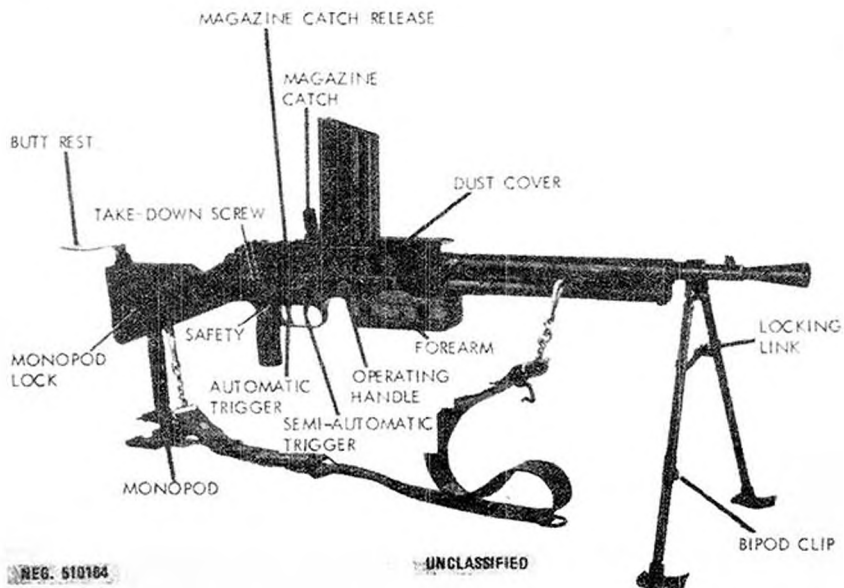
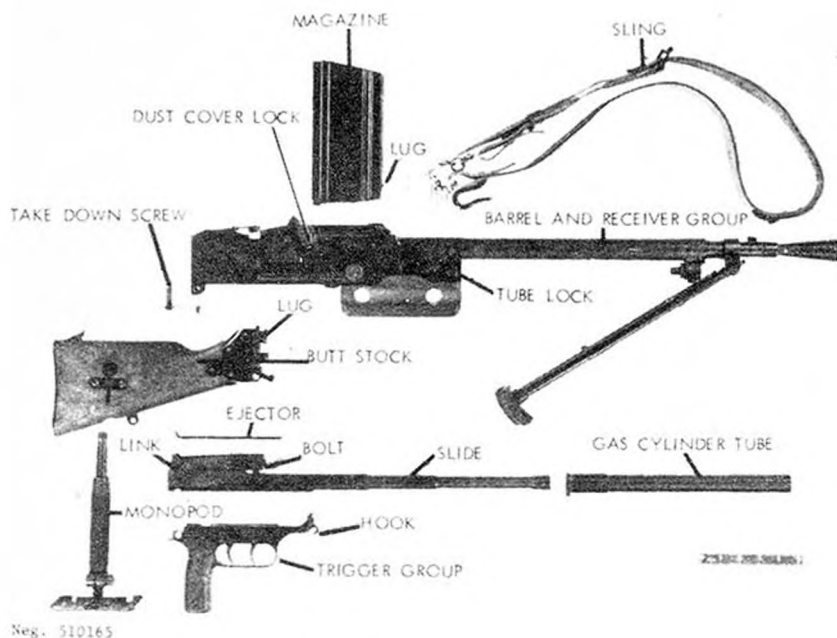

Figure 165. French Model 24/29 light machinegun.
Figure 166. M24/29 disassembled.
The 7.5-mm Model 24/29 (fig 165) was a standard pre-World War II French Army weapon that was put back into production after the war. It is an excellent weapon of simple design and unsurpassed ease of maintenance. Although the French refer to this weapon as an automatic rifle, it is a light machinegun by contemporary standards. The Model 24/29 is sometimes referred to as the Chatellerault machinegun. Its double triggers, large wood forearm, and multiperforated conical flash hider are prime recognition features. There is a large vertical hole in the forearm; this is to adapt the gun to an antiaircraft or vehicular post mount. Although obsolescent in the French Army, the Model 24/29 is still in widespread use in many former French possessions. The Model 24/29 fires the 7.5x54-mm cartridge (sec V).
c. Open the dust cover by turning the dust cover lock (fig 166) upward, then pull the magazine catch release (fig 165) rearward; this will allow the magazine catch to spring up into position. Fold the dust cover forward over the barrel. If necessary, the rear sight aperture can be swung to the left for use. Set the sight to the desired range by depressing the locks and moving the slide along the ramp until the top of the slide is aligned with the figure that corresponds to the range in hundreds of meters. Unfold the butt rest if desired.
d. Hold the magazine, tilted forward, and mate the lug (fig 166) on its front side with the recess in the magazine well. Rotate the magazine rearward until the magazine catch snaps into place. Pull the operating handle fully rearward; then push it forward. CAUTION: The gun is now ready to fire. If desired, render the gun safe by moving the safety (fig 165) downward.
d. The driving spring can now be pulled rearward and removed from the slide (fig 166).
e. Pull the operating handle rearward. This will move the bolt and slide to the rear where they can be grasped and pulled out of the receiver. Turn the tube lock (fig 166) to the vertical position and swing the rear end of the gas cylinder tube to the right; after it disengages from the receiver, it can be removed.
h. Place the bolt onto the slide, position the link (fig 166), and replace the link pin.
j. Push the bolt as far forward as possible on the slide; then insert the bolt and slide into the receiver, insuring that the piston enters the gas cylinder tube. Tip the muzzle down so that the bolt and slide will go fully forward. Replace the ejector (fig 166) into its recess.
k. Insert the driving spring and guide into the slide, guide to the rear. Mate the hook (fig 166) on the trigger group with its cross pin in the receiver; then swing the trigger group up into place.
l. Hold the stock at an upward angle to the receiver and fit its lug (fig 166) into its recess in the inner top of the receiver. Hold the trigger group up in place and swing the stock down until it seats against the receiver. Insert the takedown screw, from the right, and screw it fully home. Close the dust covers, fold the aperture to the right, and press the magazine catch down until it is locked in place.